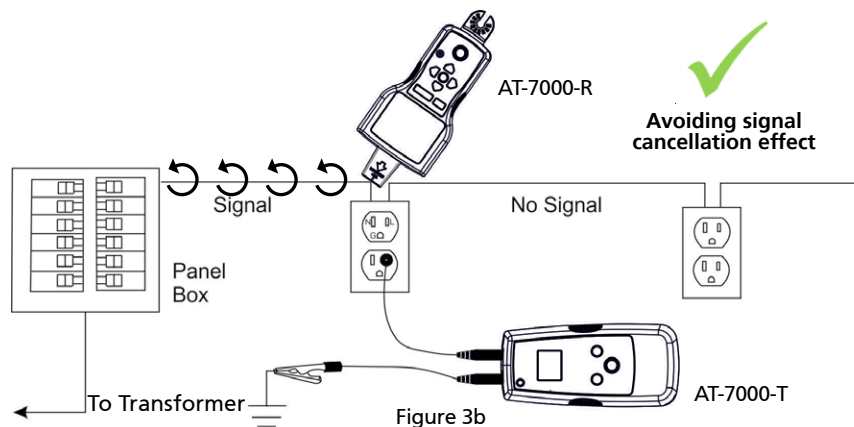

Figure 3b
2. Connect red lead to energized hot wire (on the load side of the system). The signal will **ONLY** be transmitted between the outlet to which the transmitter is connected and the source of power (see Figure 3b).